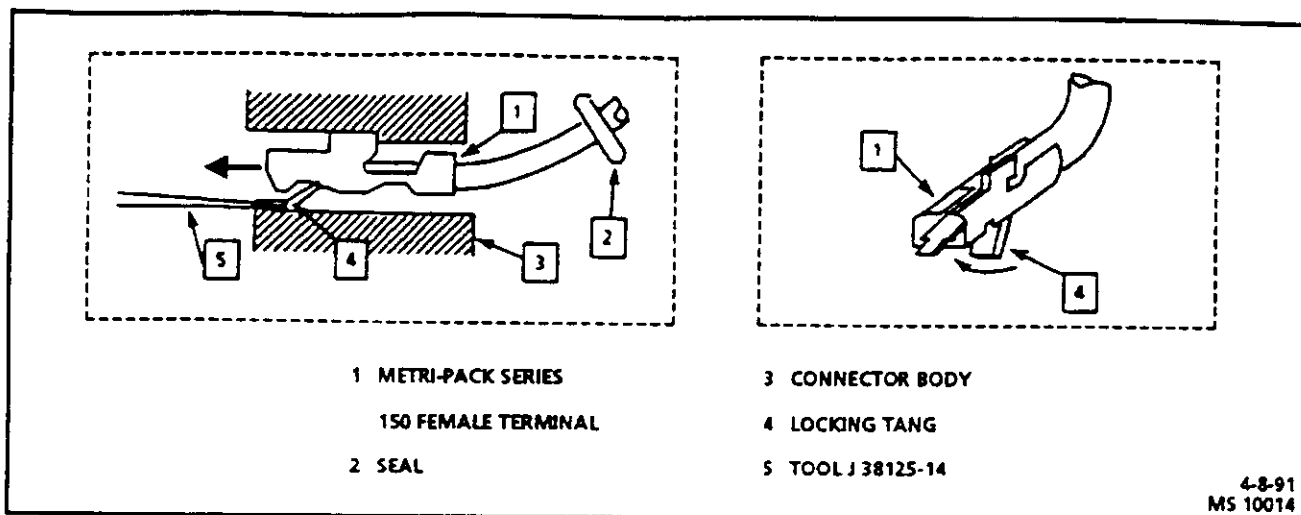

Figure 3-21 Metri-Pack Series 150 Terminal Removal
Some electronic control module harness connectors contain terminals called Metri-Pack (see Figure 3-21). These are used at the coolant temperature sensor.
2. Insert tool as shown in Figure 3-21 insert "A", to release the terminal locking tang.